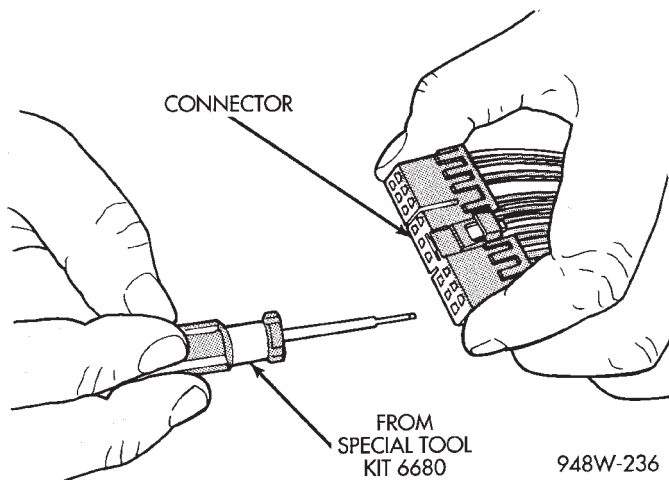
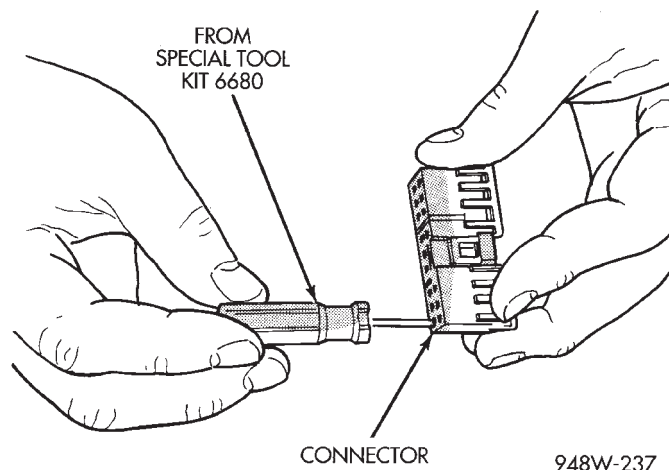

Fig. 18 Terminal Removal
Fig. 19 Terminal Removal Using Special Tool
(4) Position the connector locking finger away from the terminal using the proper pick from special tool kit 6680. Pull on the wire to remove the terminal from the connector (Fig. 18) (Fig. 19).
(5) Reset the terminal locking tang, if it has one.
(6) Insert the removed wire in the same cavity on the repair connector.
(7) Repeat steps four through six for each wire in the connector, being sure that all wires are inserted into the proper cavities. For additional connector pin-out identification, refer to the wiring diagrams.
(8) Insert the connector locking wedge into the repaired connector, if required.
(9) Connect connector to its mating half/component.
(10) Connect battery and test all affected systems.